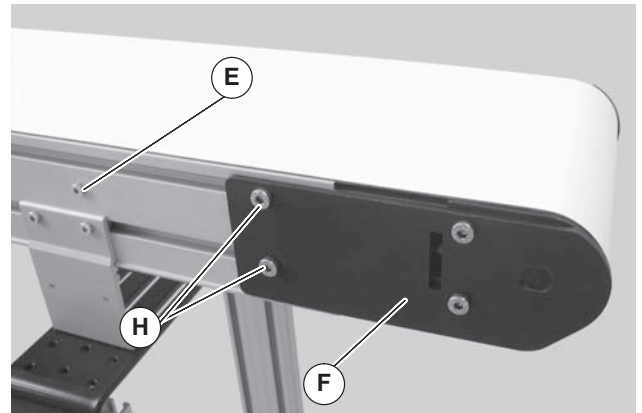
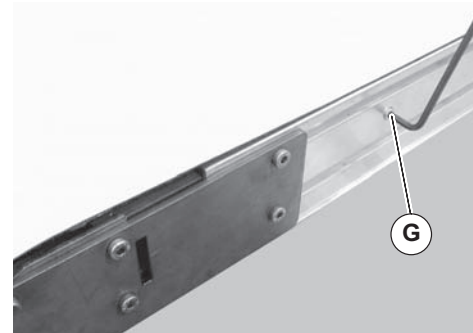

Figure 2
Figure 3
2. On tension end of the conveyor, identified by the pinion locking screw (Figure 2, item E), push in head plate assembly (F): Loosen the pinion locking screw (E), adjust the pinion torque screw (Figure 3, item G). On both sides of conveyor, loosen the two tail clamp bolts (Figure 2, item H), and push head plate assembly (F) inward.